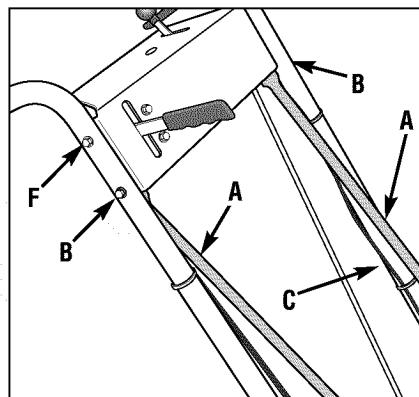
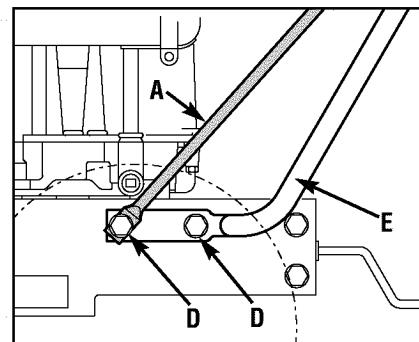

Figure 2-1
Figure 2-2: Attach handlebars and struts to engine deck.
NOTE: Four screws (D, Figure 2-2) are used to connect the handlebars to the engine deck. At the factory, two of these screws (front) are threaded directly into lock nuts welded to the back sides of the deck. The remaining two screws (rear) secure the lower handle to the deck.
3. Carefully pivot the handlebars over the engine and position the handlebar ends (E, Figure 2-2) against the sides of the engine deck. Do not allow the handlebars to rub against the engine while pivoting them.
4. Loosely secure the right-hand handlebar end to the deck by reinserting the screw (D, Figure 2-2) removed earlier. Do not secure the left-hand handle at this point in assembly.
6. Remove the nut from the lower screw (B, Figure 2-1) which secures the console to the handlebar on the left-hand side of the unit.
7. Position a handlebar strut's smaller hole (A, Figure 2-1) over the screw (B, Figure 2-1) on the INSIDE of the console, with the strut's flat side against the console.
9. Align the loose end of the left-hand handlebar strut (A, Figure 2-2) over the front hole in the handlebar end. Secure the strut and handlebar to the deck with the 5/16"-18 x 3/4" screw (D, Figure 2-2) removed earlier.
11. On both sides of the unit, securely tighten the screws (D, Figure 2-2) at the lower ends of the handlebar before tightening the screws (B & F, Figure 2-1) on the console.